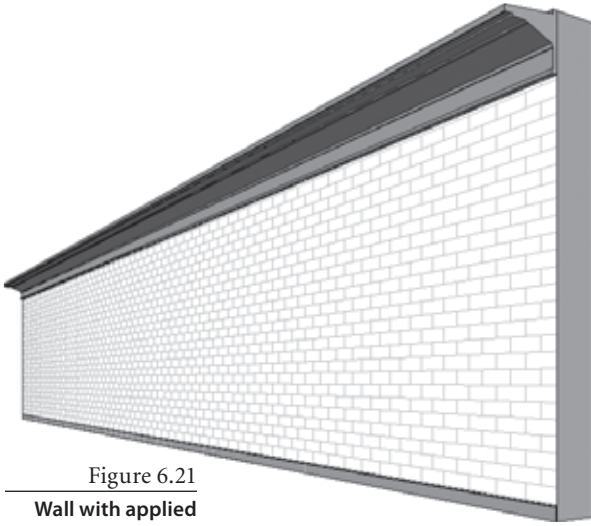

Figure 6.21
10. Back in the main window (the drawing area), draw a segment of this wall. Make a section through the wall and check out the wall in section and 3D views to see the resulting wall. Figure 6.21 shows the final result of the wall.